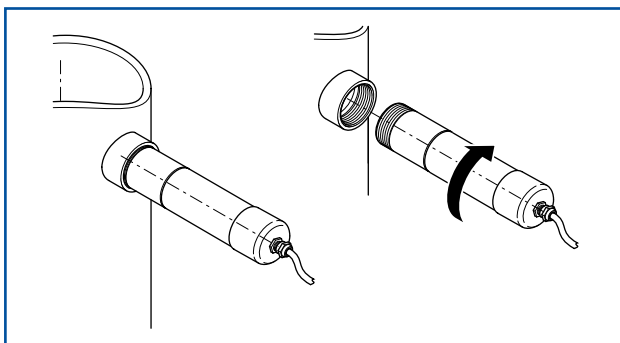

Fig. 3: Thread mounting
- in a G 1½ " sensor mount (Fig. 3)